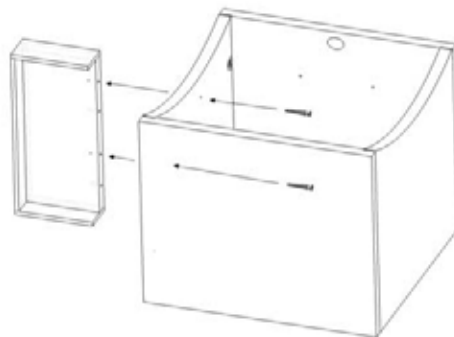

Figure 1
1. Repeat step 1 and 2 from the side shelf instructions on pg. 13. **(Figure 1)**